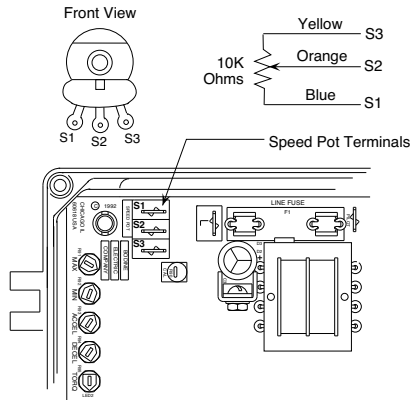

Figure 6 - Remote Speed Control Connections
1. Solder the three leads of appropriate length to a 10K ohm potentiometer as shown in Figure 6.
If a Programmable Controller with a relay output module is not available, AC or DC outputs from the PLC can be used to drive separate relay coils. See PLC user's manual for application information. See Figure 6 to determine how to connect relay contacts to the ABL-3912E and ABL-3913E.